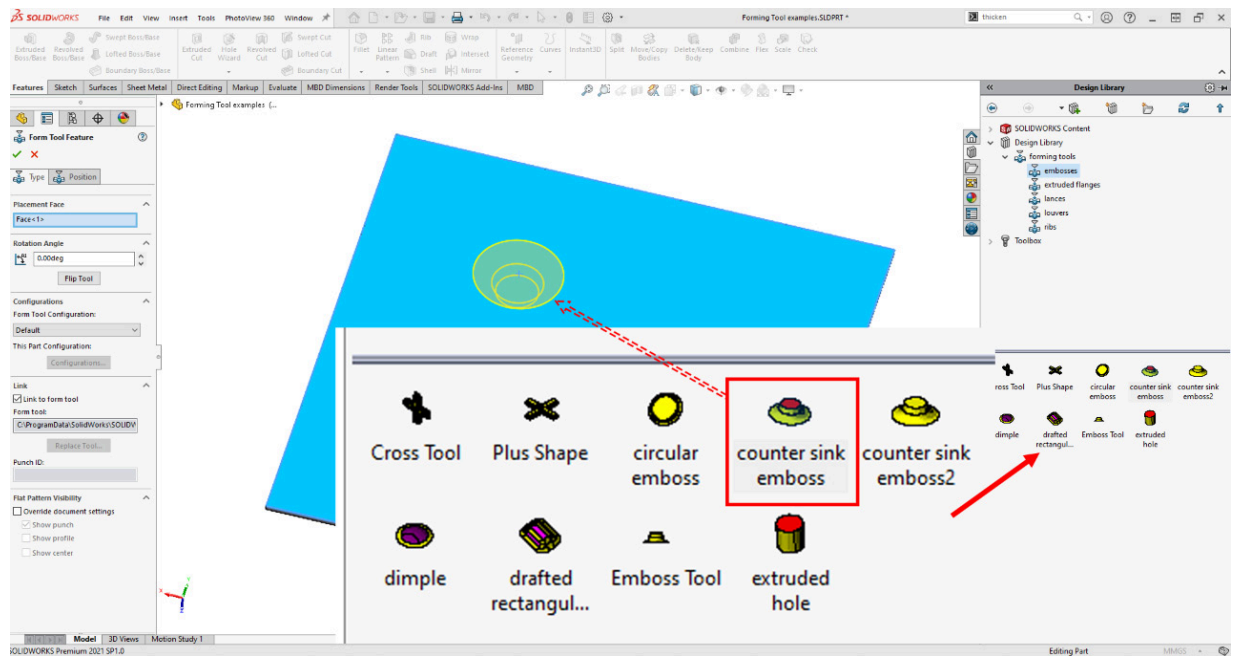
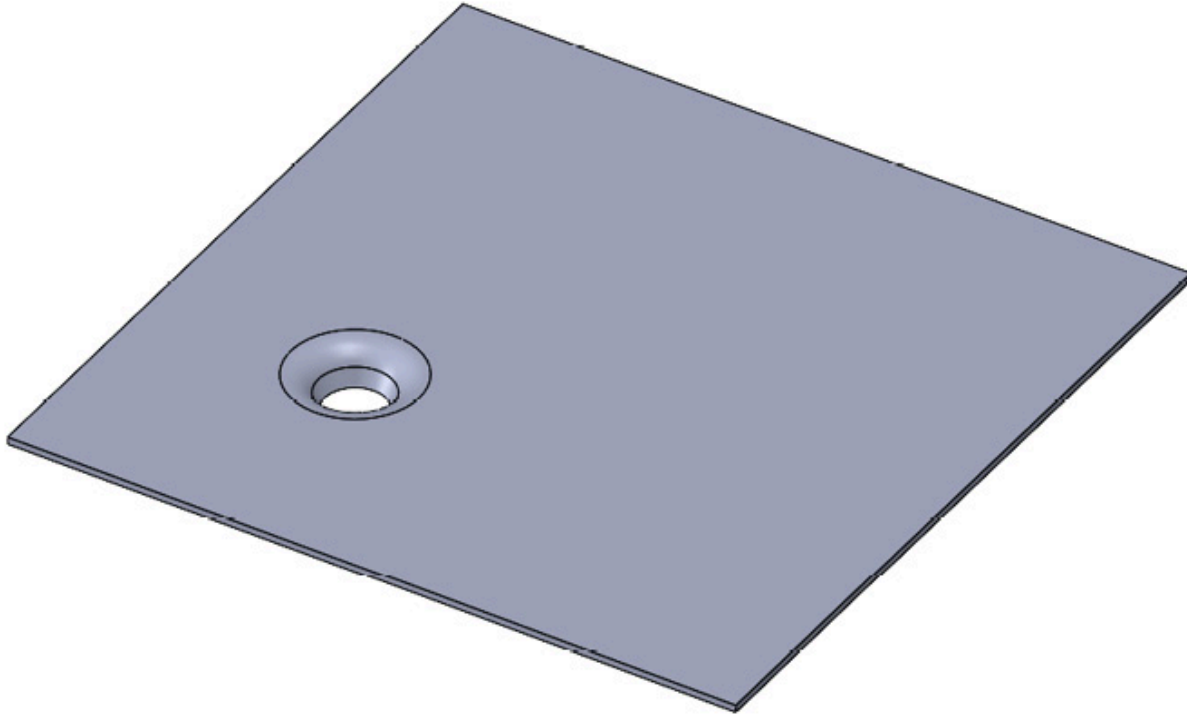

Figure 10.4: Dragging the Forming Tool onto the model
Figure 10.5: The Forming Tool feature
A yellow preview of the indentation that will be made should now appear on your model in the **Graphics Area**, as illustrated in *Figure 10.4*:
5. Press the green **OK** check mark to insert the **counter sink emboss** feature. We should now see that the sheet has been deformed in the shape of the tool that we selected, and there is a hole in the center of the embossed area, as illustrated in *Figure 10.5*. If we look at the various Forming Tools in the **Design Library** (*Figure 10.4—lower right*), we can see that they are colored yellow or red. A yellow face indicates that the face of the tool will deform (or bend) the sheet, whereas a red face indicates material that will be cut away (for more information on this, see the *Creating Custom Forming Tools* section, later in this chapter):